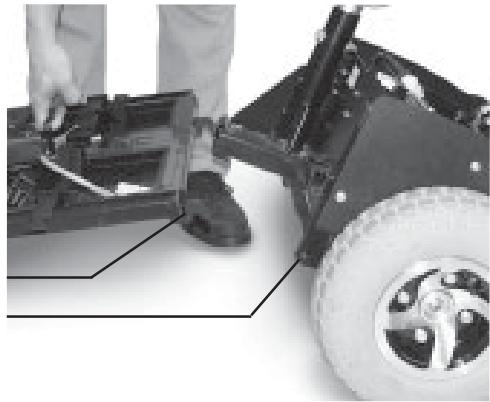

Figure 23. Separating Frame Halves
10. While holding the lever back, lift up on the frame handle and push back on the seat post. The frame halves will separate. See figure 23.
1. Position the scooter halves as shown in figure 23.